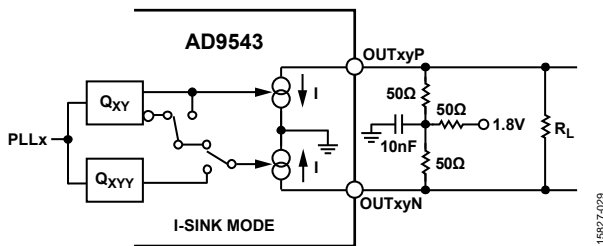
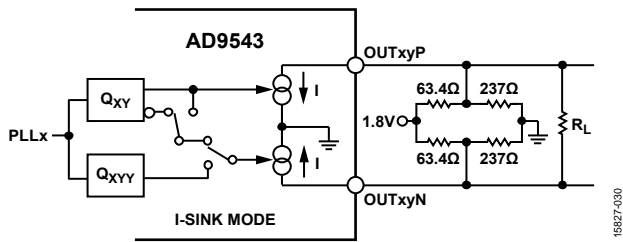

Figure 34. LVDS-Compatible Output, 1.24 V Common-Mode, T Network ($I = 7.5$ mA; $I = 15$ mA with Extra 100 Ω Termination, R_L)
Figure 35. LVDS-Compatible Output, 1.2 V Common-Mode, Thevenin Bias Network ($I = 7.5$ mA; 15 mA With Extra 100 Ω Termination, R_L)
- The 15 mA mode produces a voltage swing and is compatible with LVPECL. If LVPECL dc signal levels are required, the designer must ac couple and rebias the AD9543 output. The 15 mA mode can also be used with the termination scheme shown in Figure 34 and Figure 35 to produce an LVDS signal with the correct LVDS dc bias.